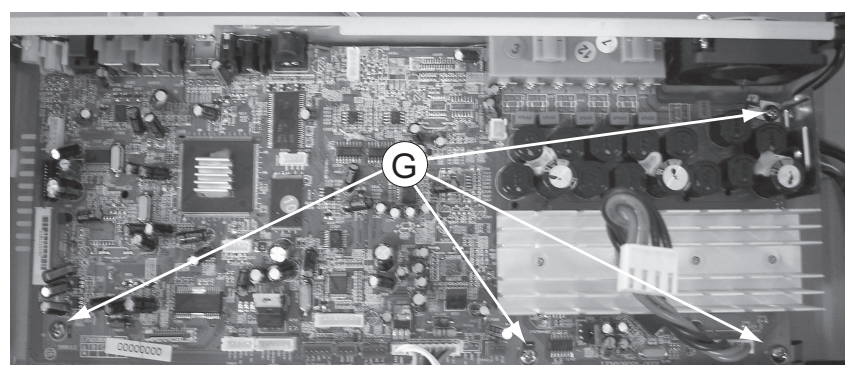

Figure 11
1) Loosen 4 screws "G" on the top of Main Board as shown in figure 11.